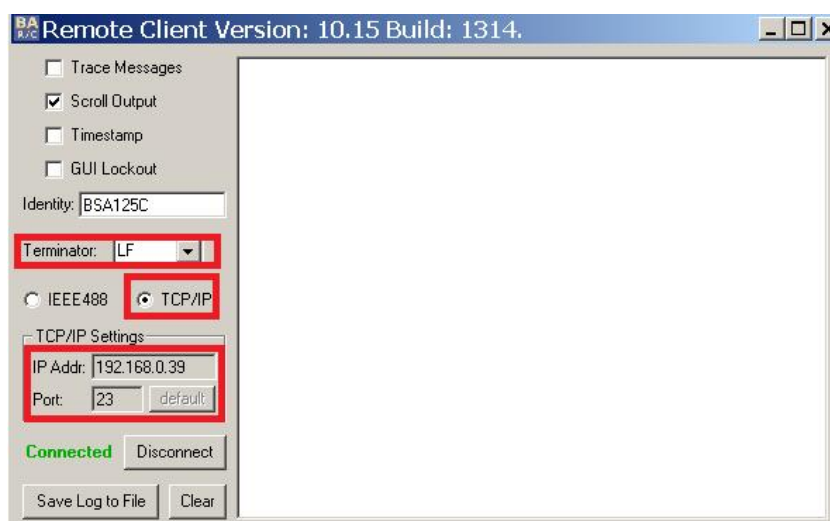

FIGURE 1. REMOTE CLIENT WINDOW
4. Change Terminator to "LF". Select the Connect Button. See Figure 1.